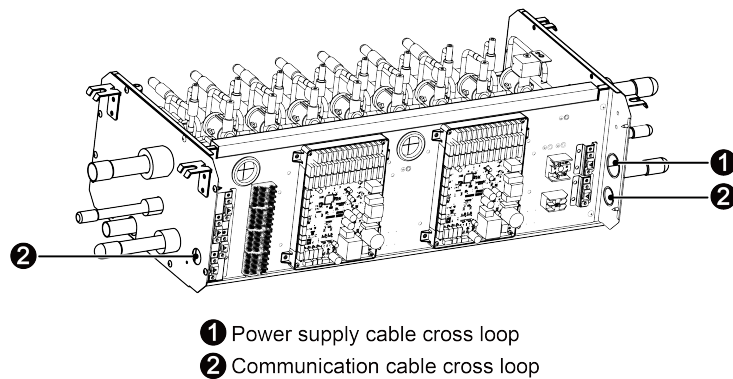

Fig.5.7
- 5) Take off the cable cross loop that is attached to the mode exchange box, as shown in Fig.5.4~ Fig.5.7. Replace with a local cable cross bushing.